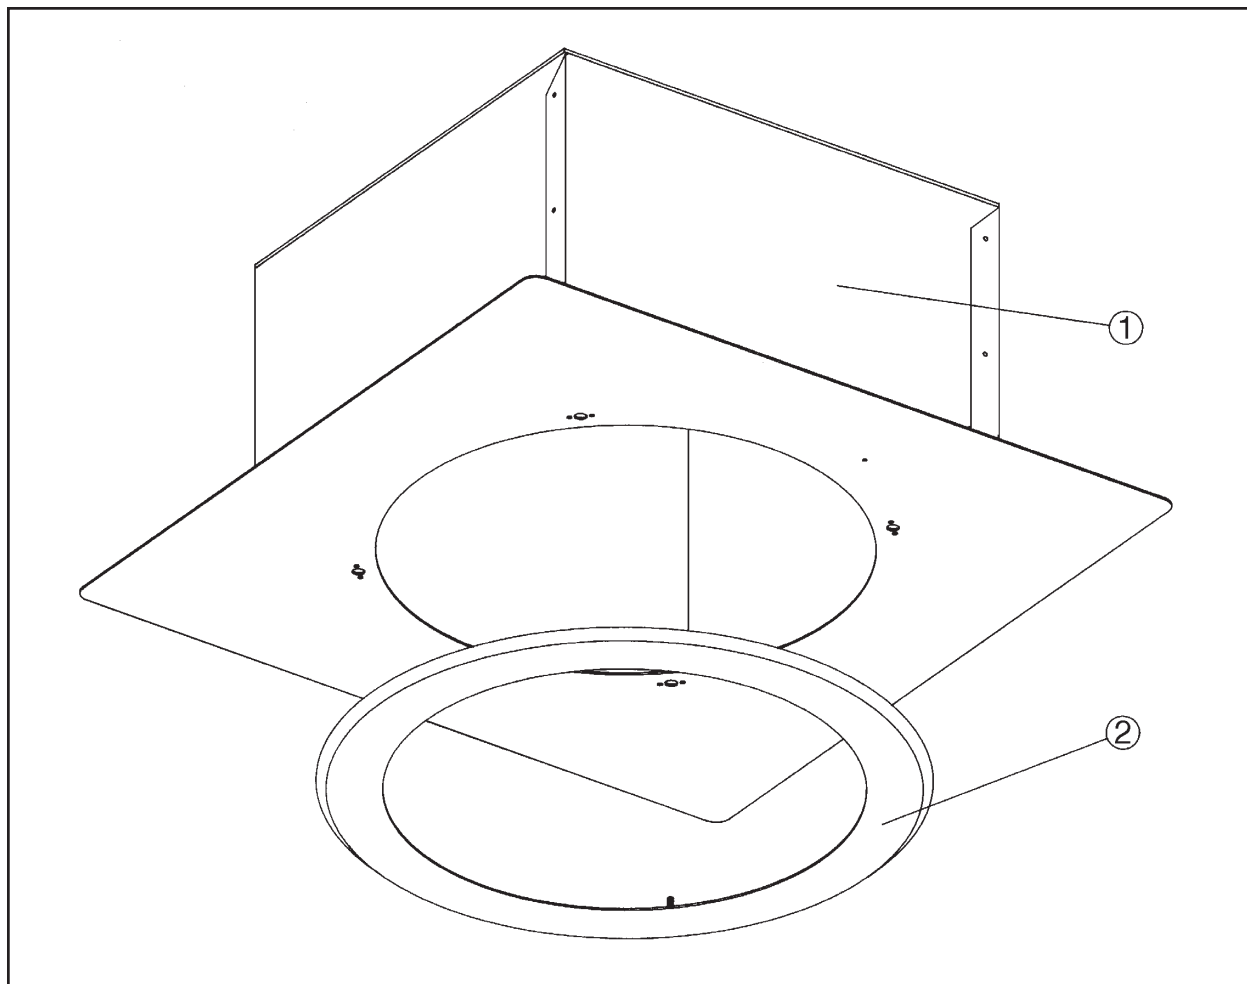
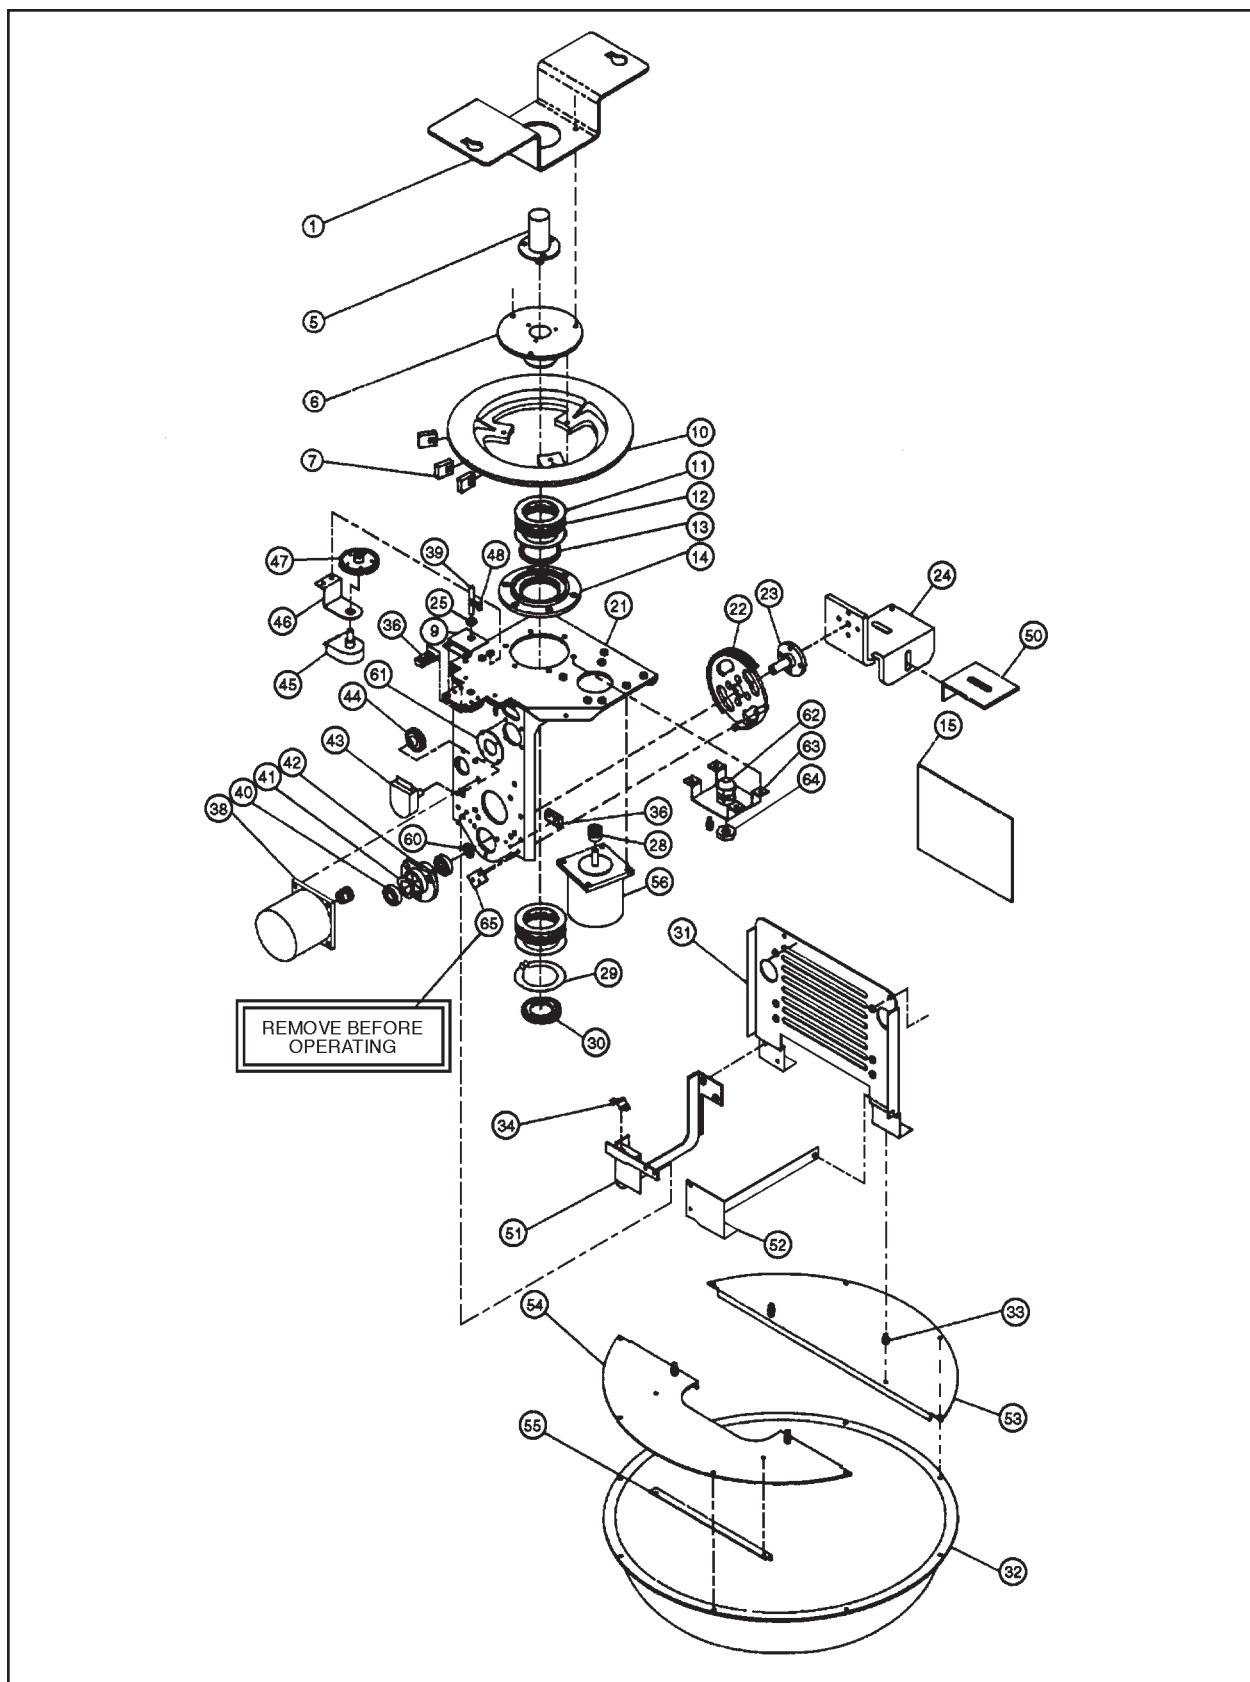

Figure 13. SB26 Exploded Assembly Diagram
Figure 14. SB2600 Series Pan/Tilt Exploded Assembly Diagram
NOTE: Remove “shipping bracket” at this time. Refer to Figure 14, item 65.
Refer to Figure 13 for an exploded assembly diagram of the SB26 Enclosure, Figures 14 and 15 for the SB2600 Series Pan/Tilt, and Figure 16 for the SB26 fixed mount.